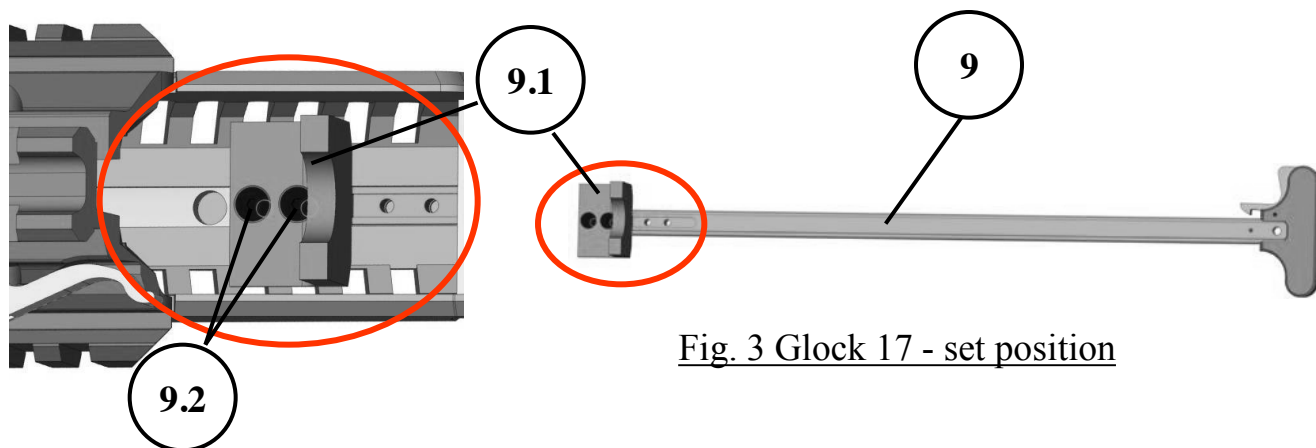

Fig. 3 Glock 17 - set position
3. Place the Slide Drawer in forward position as shown in Fig. 3 and fasten the Slide Drawer's Screws (9.2).